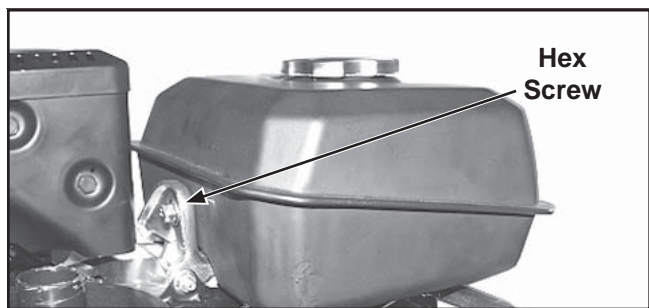

Figure 9-12. Fuel Tank Hex Screw Removal.
3. Remove two hex flange screws and two hex flange nuts securing the fuel tank to the engine brackets and remove the tank from the engine. See Figures 9-12 and 9-13.